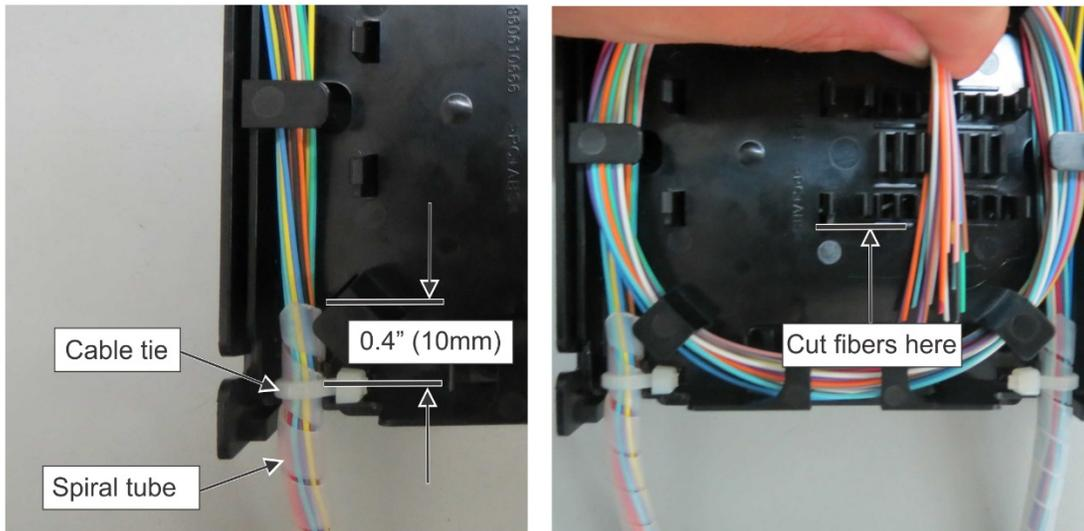

Figure 20. Secure Incoming Cable (Left Side)
3. Position cable so that edge of spiral tube is just inside the left rear of the cassette with fibers in direction of the front. Using the provided cable tie, loop it through the slot in bottom of cassette and around spiral tube approximately 0.4 inches (10mm) from the end of tube. Tighten cable tie snug around tube to secure (Figure 20, left picture). Make sure the head of the cable tie is on right side of cable.
4. Loop fibers clockwise in the cassette to determine required length for splicing, then cut at location marked above for 1st or 2nd loop (Figure 20, right picture).